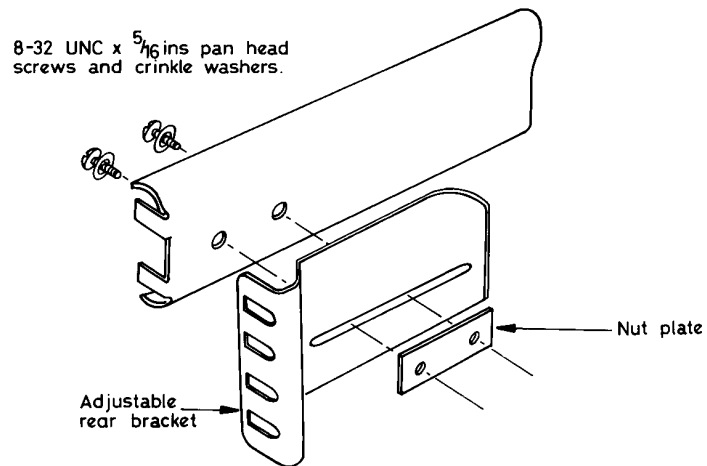

Fig A.6 *Fitting a rear bracket*
5.3.3 Fit the following items to the telescopic slide out members, as shown in Figures A.6 and A.7: